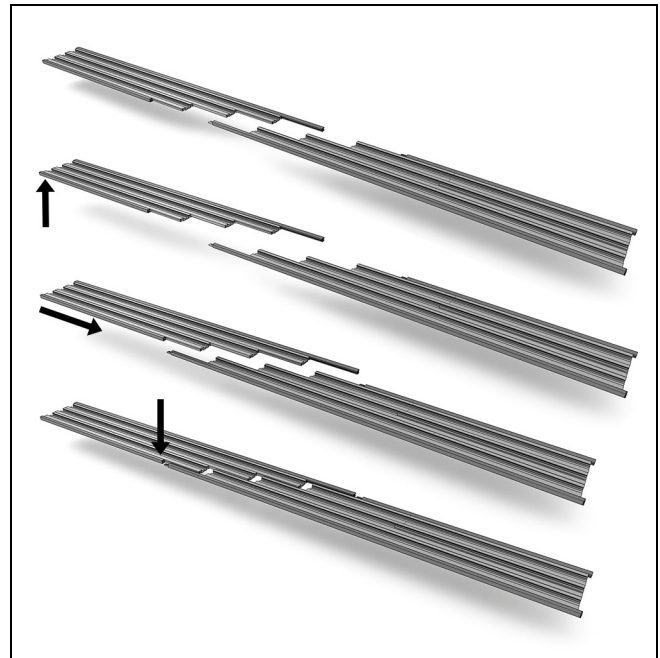

Figure 18
2. Lay the sill parts on a flat clean and protected surface with the splice sections lined up top side up. See Figure 18.